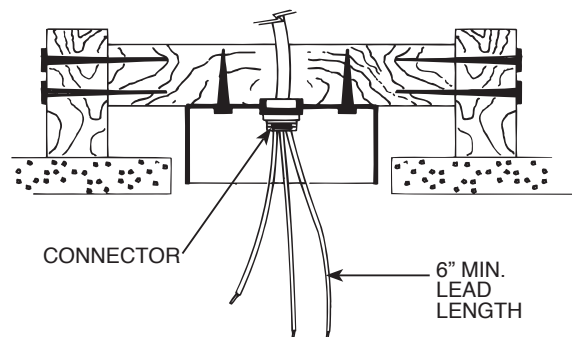

FIGURE 3. Wiring Outlet Box
B. Bring electrical cable into the outlet box and attach with an approved connector. Make certain that wiring meets all national and local electrical codes. Wire leads should extend at least 6" beyond outlet box for ease in making connections. See Figure 3.